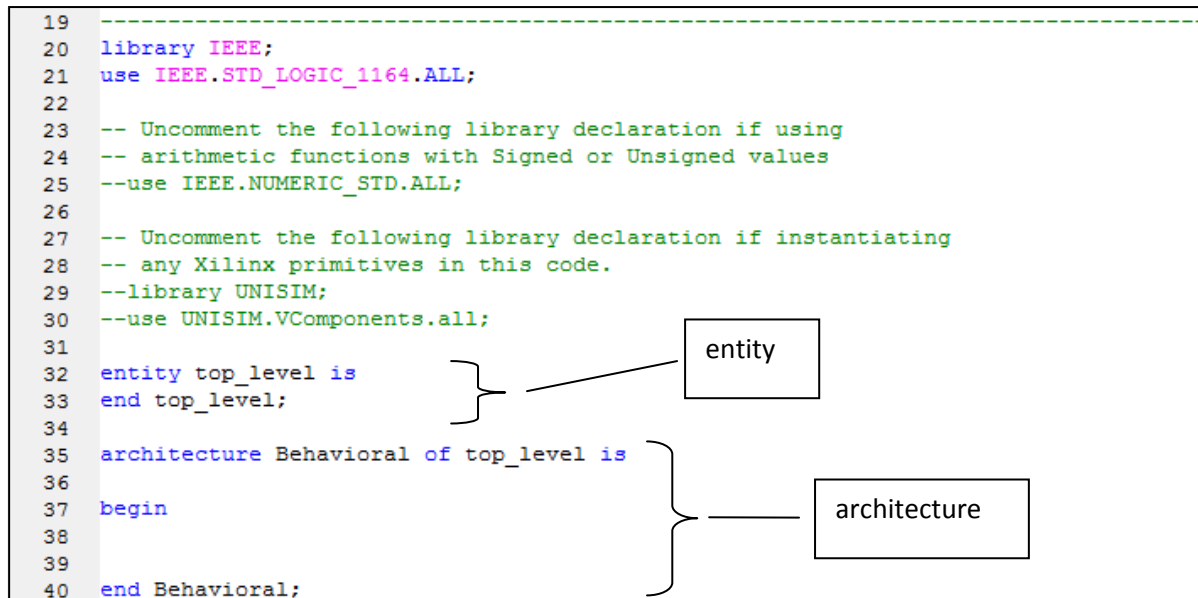

Figure 6.27: top_level.vhd, as displayed in Project Navigator, before editing.
1. Double-click on **top_level** in the Sources window to display the file, **top_level.vhd** in a tab. The code for top_level.vhd is shown in Figure 6.27.
The code in Figure 6.27 contains an **entity** and an **architecture** section. The **entity** section defines the inputs and outputs of this hardware block. The **entity and architecture** sections still need to be written for this module.
2. Replace the **entity and architecture** blocks in Figure 6.27 with the code in Figure 6.28(a)-(d). Alternatively, download the file **top_level_init.vhd**, available for download with this tutorial, and copy the code from it. The code in Figure 6.28 is a trimmed down version of the **Initial Design for the Spartan-3E FPGA Starter Kit Board** (the original design shipped with the board), downloaded from [8].